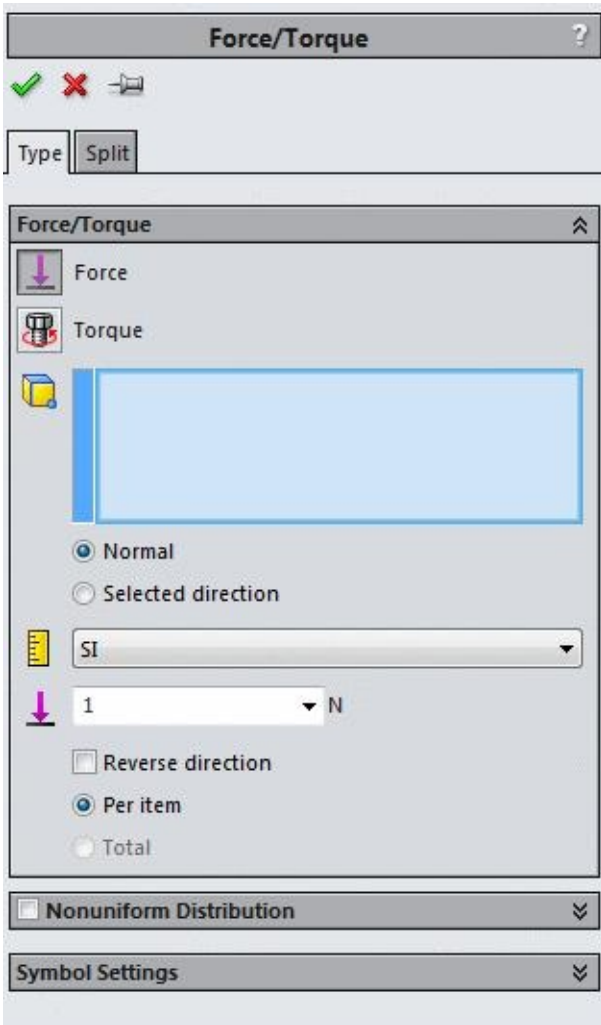

Figure-2. Force Torque PropertyManager
- Click on the **Force** button from the list. The **Force/Torque PropertyManager** will be displayed; refer to Figure-2.